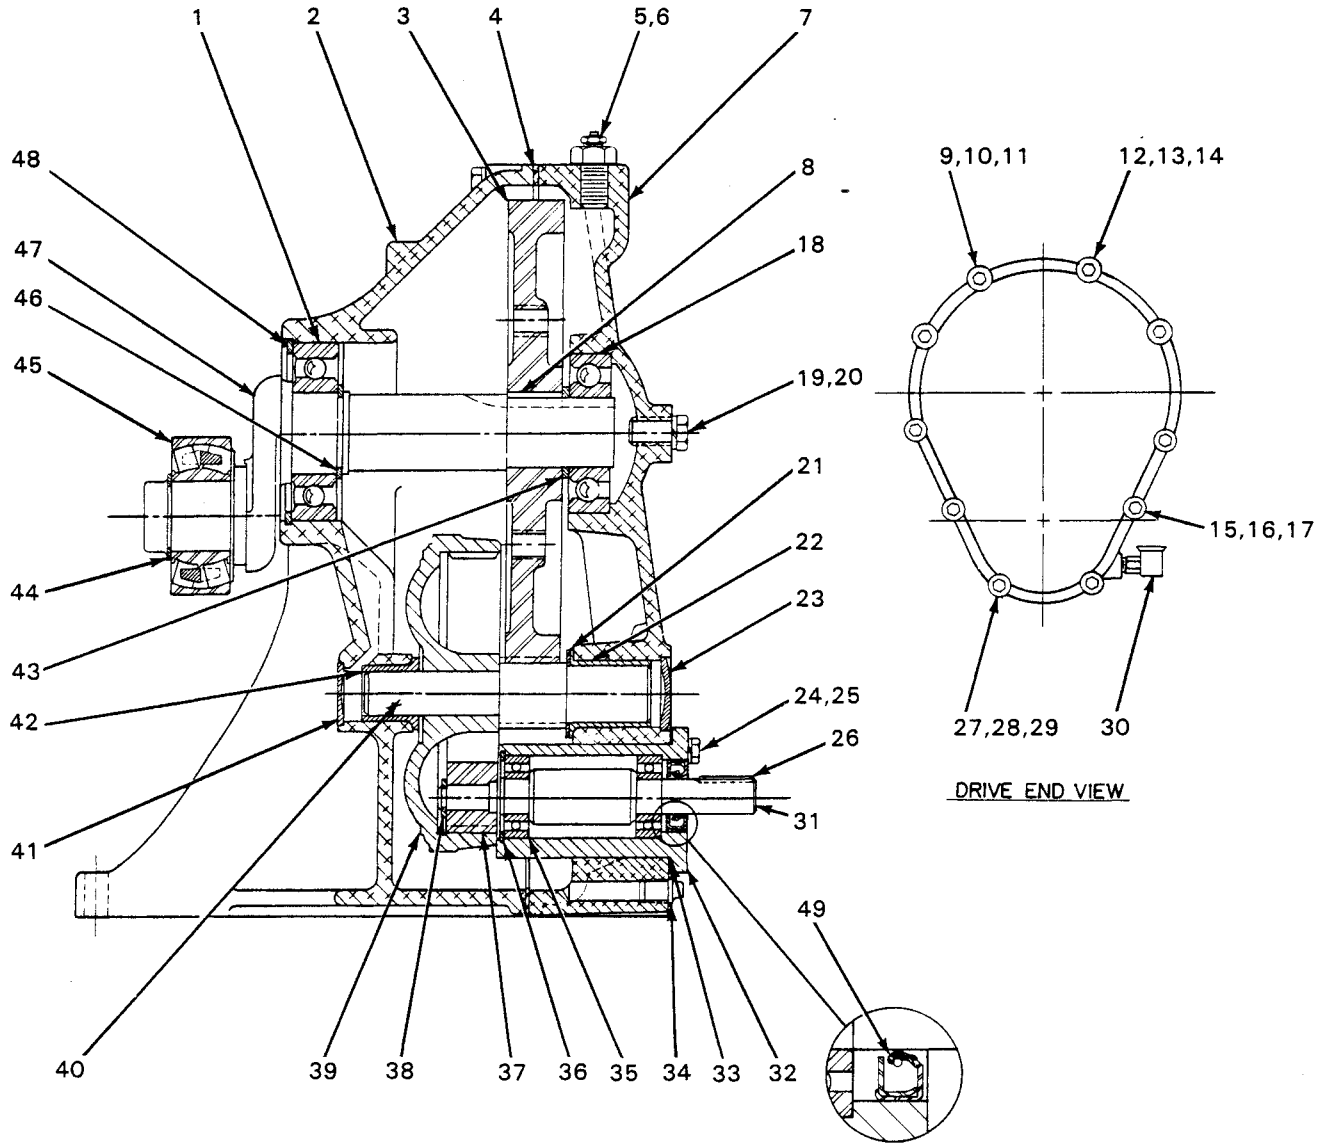

Figure 4. 44161-010 Gearbox Assembly
### **Gear Box Disassembly (See figure 4)**
**Gear Box Reassembly (See figure 4)**